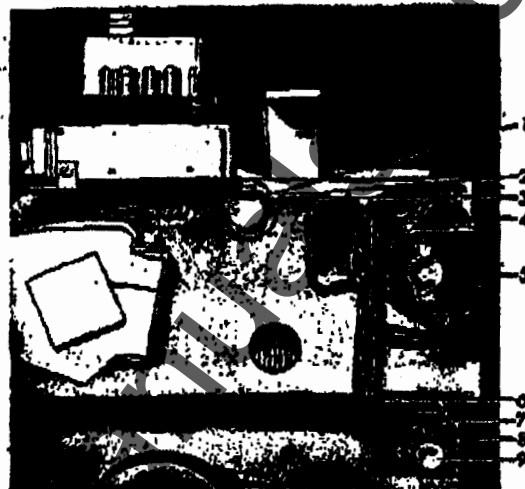

Figure 12. (8034474) Positive Interlock Switch
Refer to Figure 12. With the positive interlock in the reset, or normal position the clearance between the interlock switch arm (2) and the switch mounting plate (3) should be $1/32$ " or less. This can be adjusted by bending the switch arm.